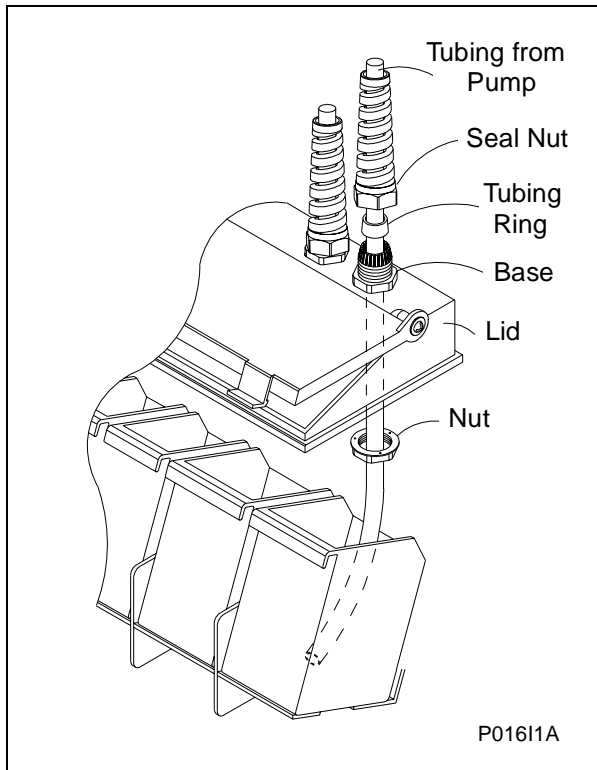

Figure 11
1. Remove plugs from base. See Figure 11. Plugs are assembled inside the tubing ring.